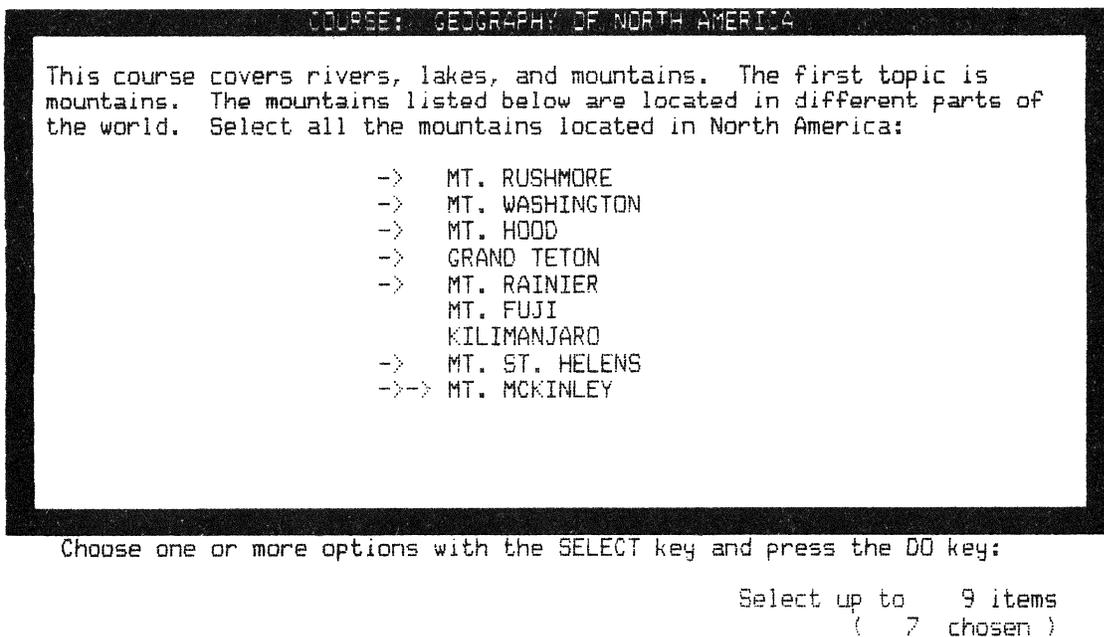

Figure 4-4: Course: Geography of North America
6. Select **Geography**. A multiple-choice menu titled "Course: Geography of North America" will appear (see Figure 4-4).